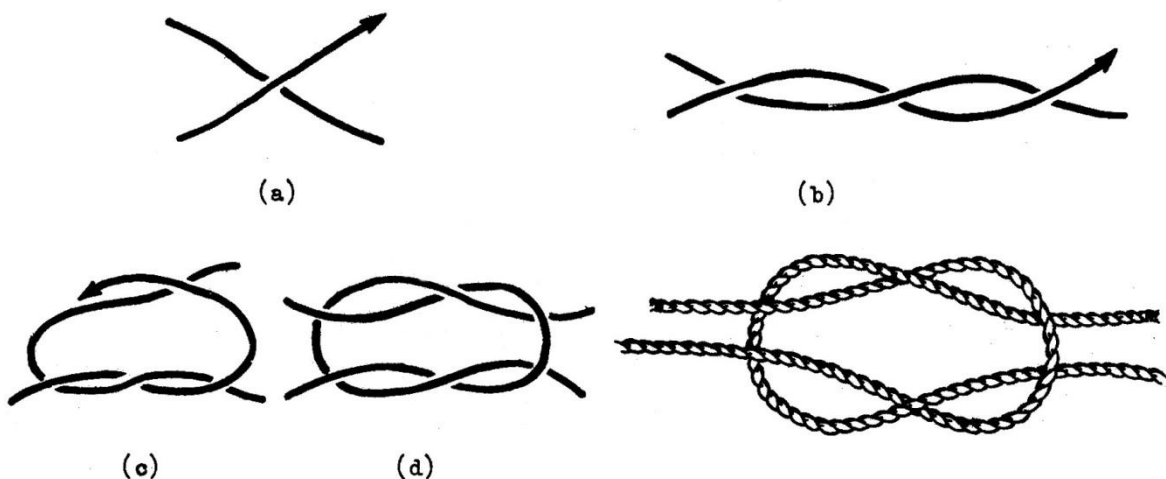

FIG. 4. REEF KNOT.
3.4 Reef Knot. A reef knot (see Fig. 4) is used for joining two lengths of medium-size dry rope of equal diameter. The greater the stress the tighter the grip. This knot will slip if ropes become wet or are of unequal size. This knot is simply loosened by pulling on the end and the standing part. An easy way to learn this knot is, with one end in each hand take left over right and turn then right over left and turn. (See Fig. 4a, b, c and d.)